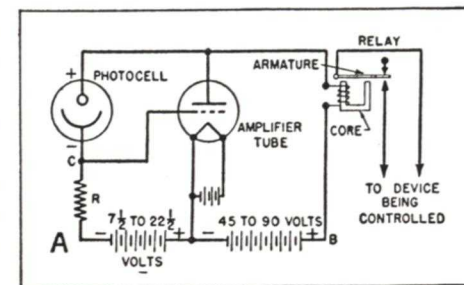

FIG. 5. A basic circuit which can be used with the photoemissive cell.
► Since the current passed by the cells is too small to operate even a super-sensitive relay, photoemissive cells are always used with one or more amplifier tubes. A typical circuit which can be used either with gas or vacuum type photocells is given in Fig. 5. The photocell is connected so that the voltages of the B and C batteries will be applied to it through R. (Its current will not operate the relay.) An ordinary radio tube such as the 1H4G (or any triode, provided the proper voltages are applied) serves as amplifier tube; the relay is a sensitive type, with its contacts connected into the power supply leads of the device being controlled.
selenium cell changes its resistance, thereby changing the bias voltage on the grid of the tube. In the circuit shown, increases in light make the grid of the tube less negative (more positive), because the cell resistance decreases, allowing a larger current and hence a larger voltage drop across  $R$ . This voltage is opposite in polarity to the bias, so it reduces the bias and allows the plate current to increase and operate the relay. With this circuit, therefore, the device being controlled by the relay operates whenever a strong light falls on the cell. (Notice—the response of this circuit to light falling on the cell is similar to that of the circuit in Fig. 5, in which a photoemissive cell is used.) If the positions of the selenium cell and the resistor  $R$  are reversed, the relay will be closed when the cell is dark but will open just as soon as sufficient light falls on the cell.